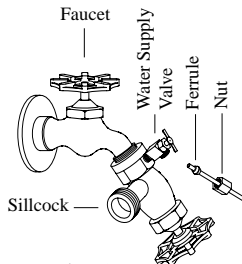

Fig. 3
• **Connect water supply line.** Install a sillcock and water valve on faucet as shown by figure 3. Place the nut and ferrule on the tubing and tighten the nut until water tight. **NOTE:** Do not connect the water supply to any soft water applications.